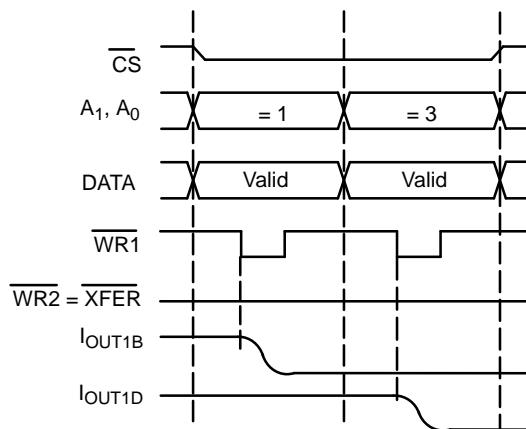

Figure 6. Individual DAC Update
- 2) **Individual DAC update.** The condition $\overline{WR2} = \overline{XFER} = \text{low}$ makes the DAC latches transparent. A writing to the B1/B2 latches updates the DAC outputs (Figure 6.).